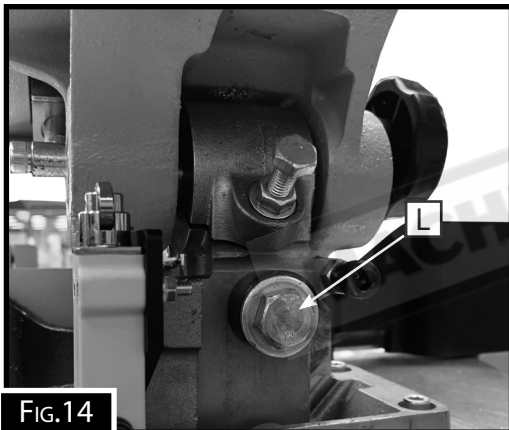

FIG.14
3. Once you have tilted the motor arm to the angle, lock the screw again (L in Fig.14)